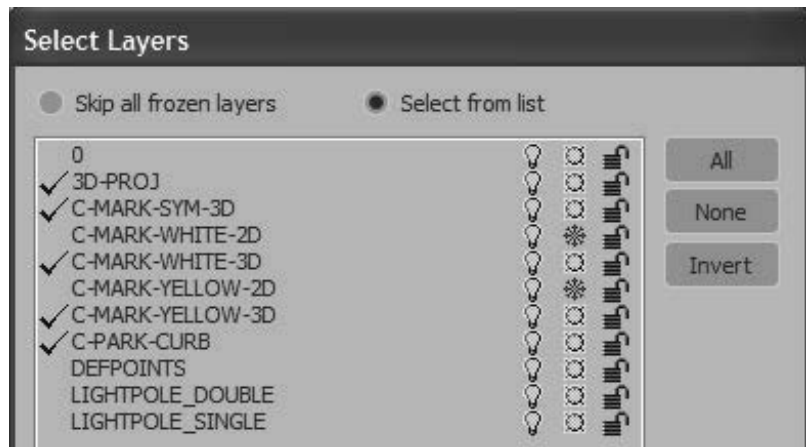

Figure 3–37
3. The File Link Settings: DWG Files dialog box opens. In the **Advanced** tab, click **Select Layers to include...**. Clear the 2D layers (**C-MARK-WHITE-2D** and **C-MARK-YELLOW-2D**), and the two **LIGHTPOLE** layers, as shown in Figure 3–37.